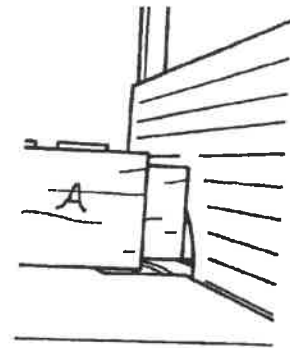

Fig. C-9
11. (This step is optional.) To make a hidden tenon, cut a shoulder on each edge of the tenon. Turn on the Dust Collector and router. Without changing the bit setting from its positions in Step 10, place the workpiece on its edge and against the miter gauge. Then make the cut on one edge of the workpiece. Flip the workpiece on its opposite edge and make the cut. This will form the last shoulders of the tenon. See Fig. C-9.